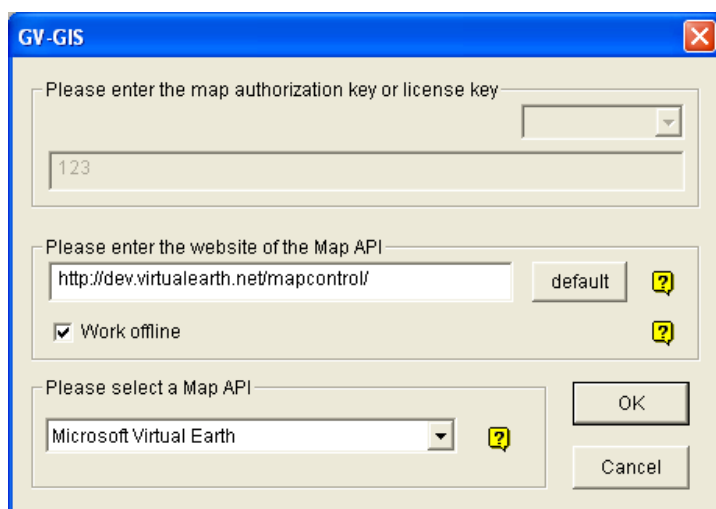

Figure 3-1
1. If you like to use the maps created yourself, overwrite the files at :\\GV folder\\GIShtm-User, and select **User Defined** from the "Please Select a Map API" drop-down list (Figure 3-1).